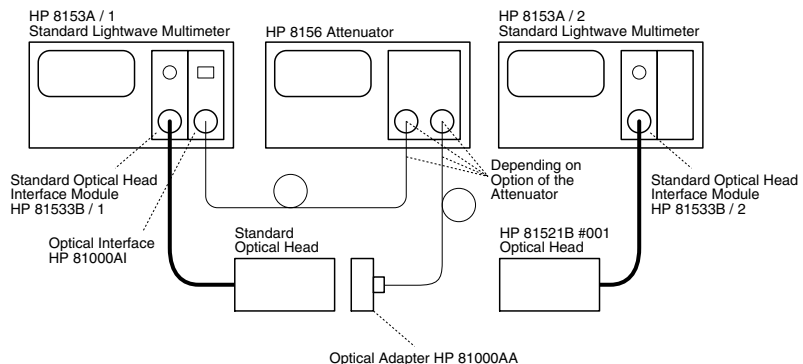

Figure D-4
- 2** Connect the equipment as shown in Figure D-4.